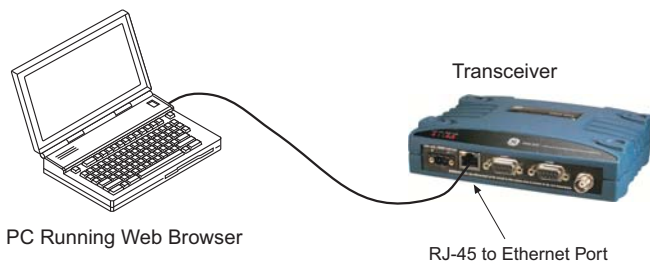

Figure 5. Setup for PC Configuration
1. Connect an Ethernet cable (straight-thru or crossover) between the radio and a PC as shown in Figure 5.